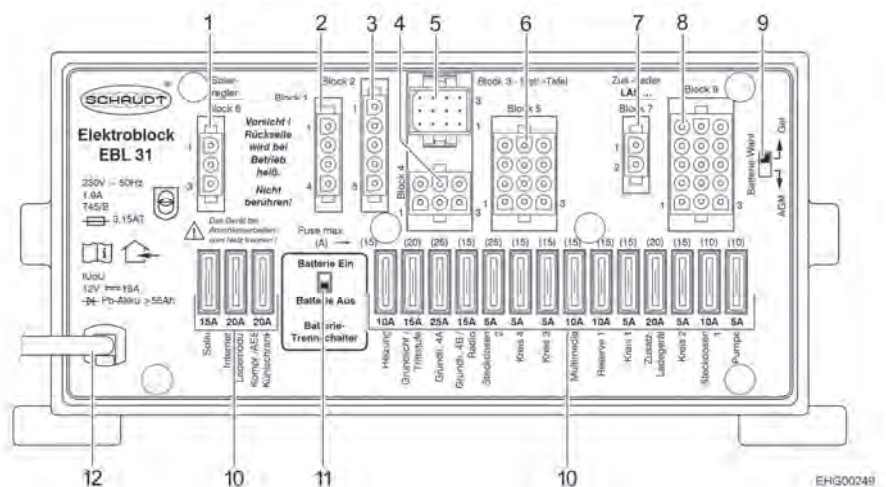

Fig. 95 Transformer/rectifier (EBL 31)
- ▷ To disconnect **all** electrical 12 V appliances from the power supply and prevent discharge of the living area battery, set the battery cut-off switch (Fig. 95,11) to "Batterie aus" (battery off) on the transformer/rectifier.
- ▷ Appliances such as the charger, the solar charge regulator, the panel, or similar, take power from the battery, even when the 12 V main switch has been switched off on the panel (Fig. 96,6). Therefore, you switch the battery cut-off switch (Fig. 95,11) on the transformer/rectifier to "Batterie Aus" (battery OFF) when the vehicle is not used for a long period of time.